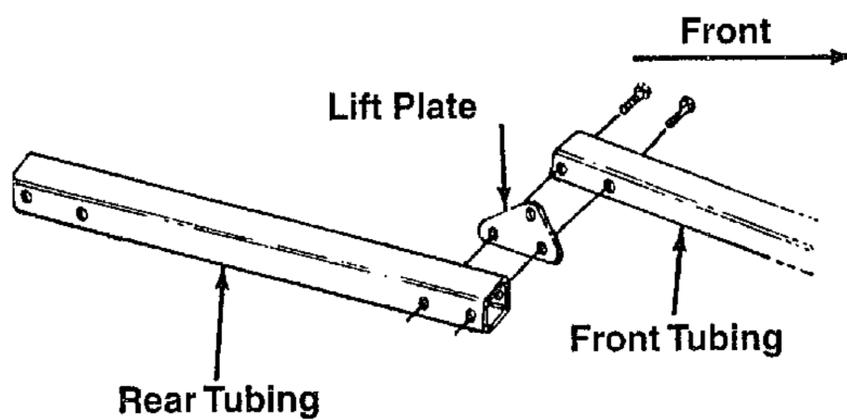

Figure 3
1. Place the lift plate between the tubing halves. Rear tubing is rectangular (1" x 2") and goes to the outside. Front tubing assembly is square. Make certain hole locations are placed correctly as shown in Figure 3.